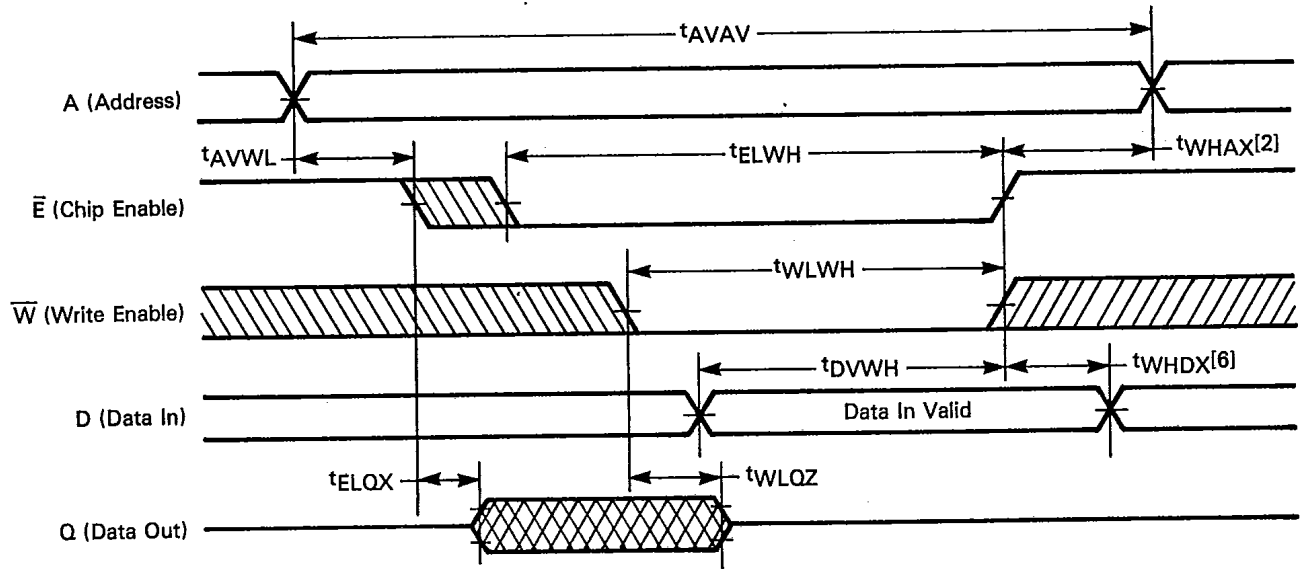

FIGURE 1 — OUTPUT LOAD
Output Load See Figure 1
- Transition is measured ±200 mV from the steady state output voltage with the output loading specified in Figure 1.